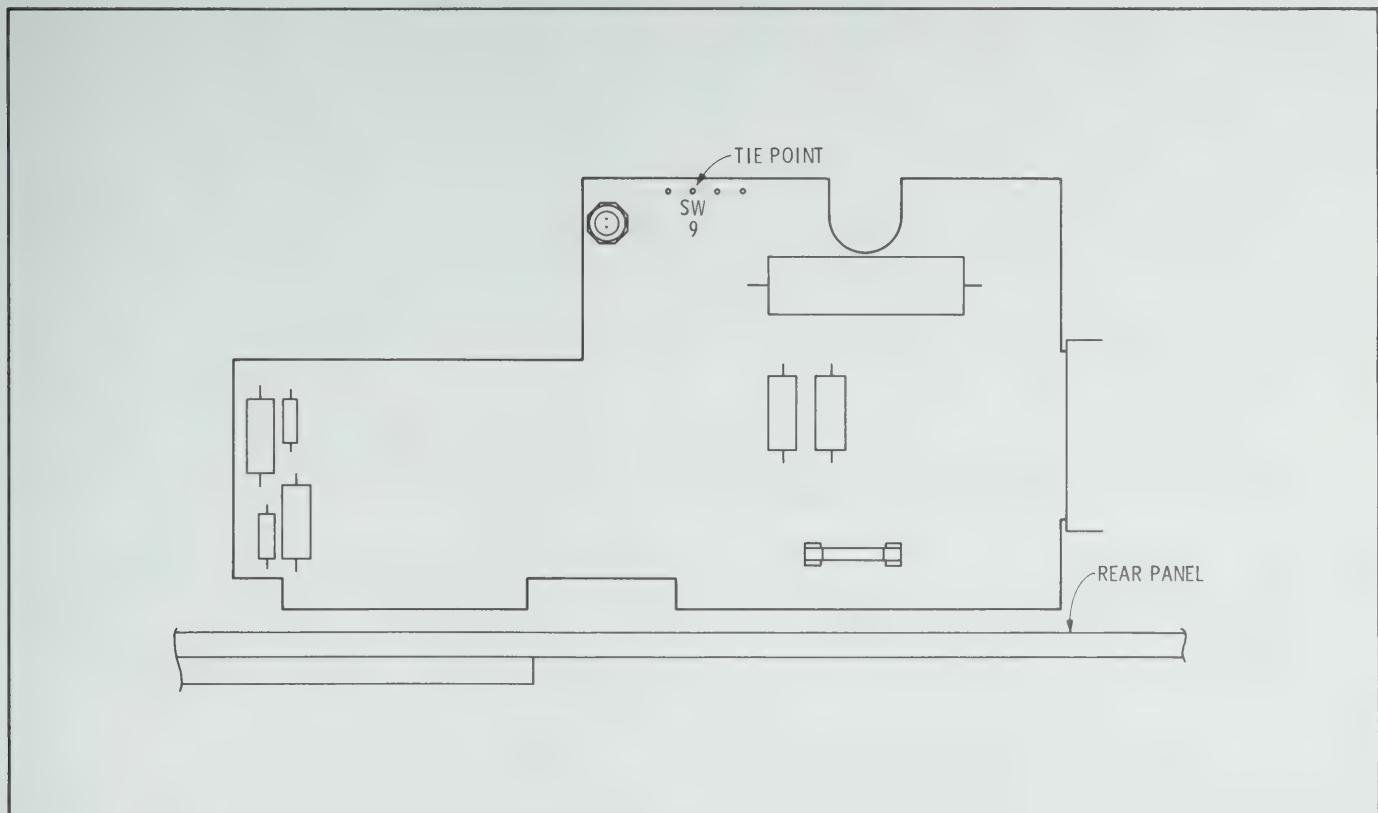

Figure 3-1. A20 Rectifier Board
- 3-3. Locate the A20 rectifier board and find tie point ^{SW}₉ (see Figure 3-1).